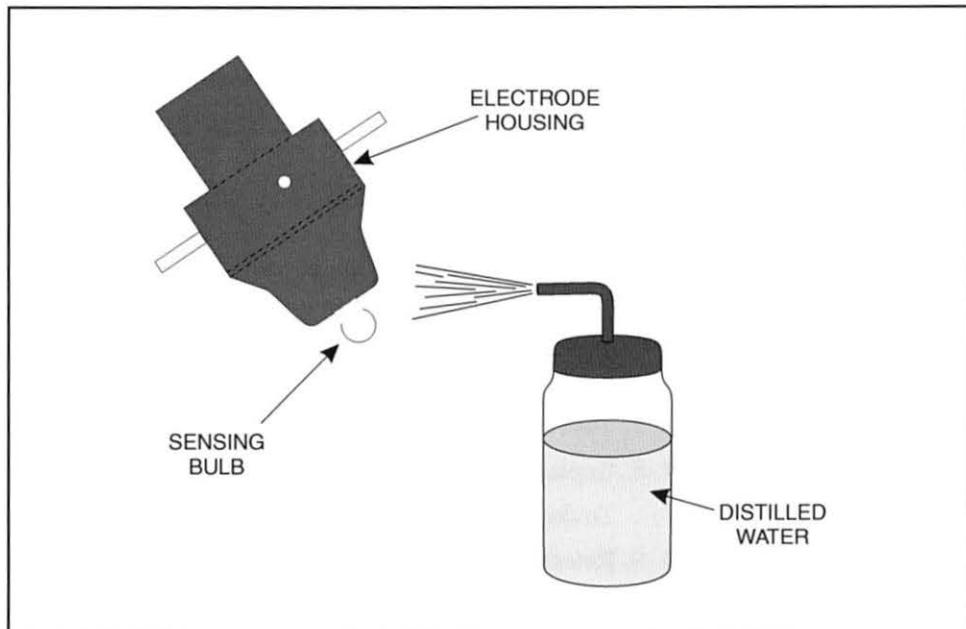

Figure 35. Rinsing Electrode Sensing Bulb with Distilled Water
- D. Remove the electrode from the 4 pH solution and rinse the sensing bulb of the electrode with distilled water, as shown in figure 35.